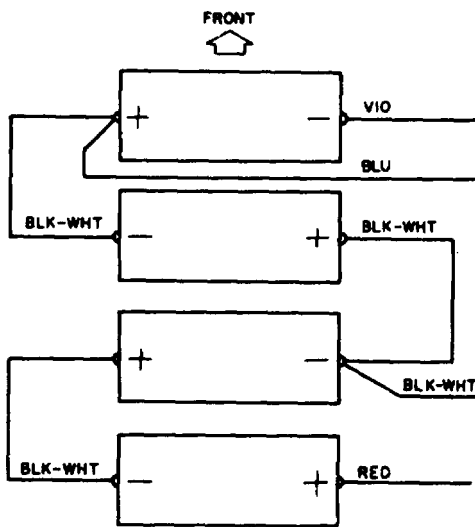

Figure 4-6. Voltmeter, Electronic ME-260B/U battery wiring diagram.
4-11. Voltmeter, Electronic ME--260B/U Battery Replacement (fig. 4-6).
(1) Install the batteries.
(2) Replace the battery retainer and screws.; replace the amplifier PC board, star washers and mounting screws.
(3) Solder the leads to the new batteries as shown in figure 4-6.
(4) Replace the fuse.
(5) Replace the top and side panels.
(6) Replace the voltmeter in the carrying case.